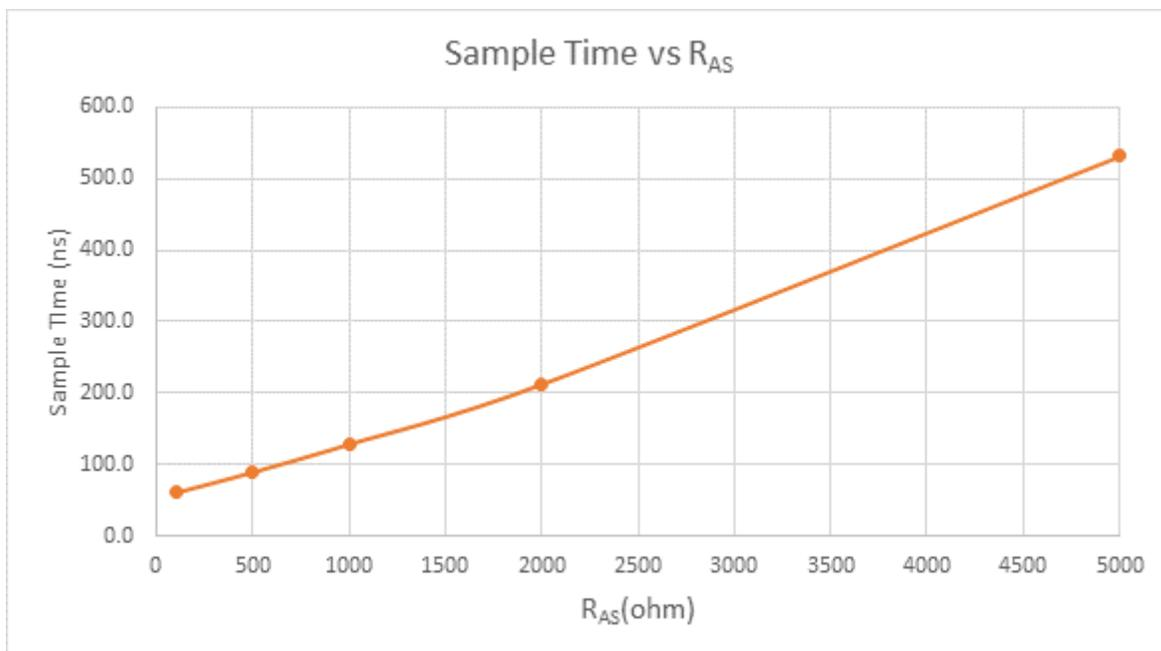

Figure 35. Sample time VS. RAS
4 See Figure 35, "Sample time VS. RAS".
- 4 See Figure 35, "Sample time VS. RAS".